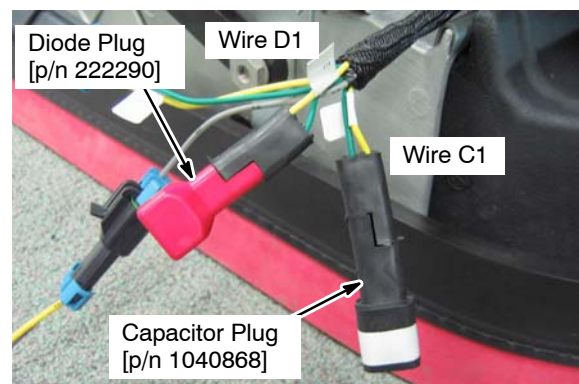

Fig. 17
3. Connect the capacitor plug [p/n 1040868] and diode plug [p/n 22290] into the routed *ec-H2O* wire harness (Figure 17).